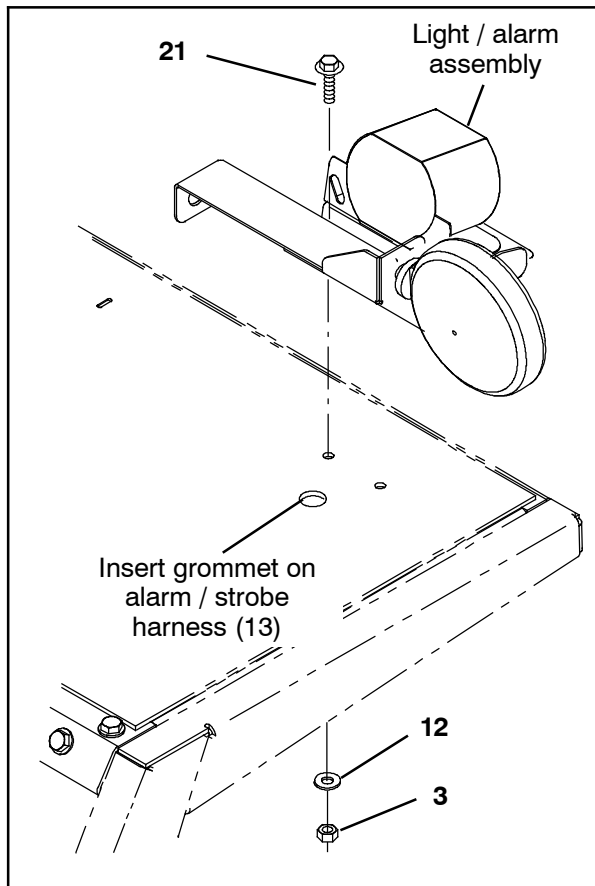

FIG. 4
- Use two M8 SEMS hex screws (21), two flat washers (12), and two M8 hex nuts (3) to install the light / alarm assembly assembled in the previous several steps onto the overhead guard. (Fig. 4)
- Insert the grommet on the alarm / strobe harness (13) into the hole in the top of the overhead guard. (Fig. 4)